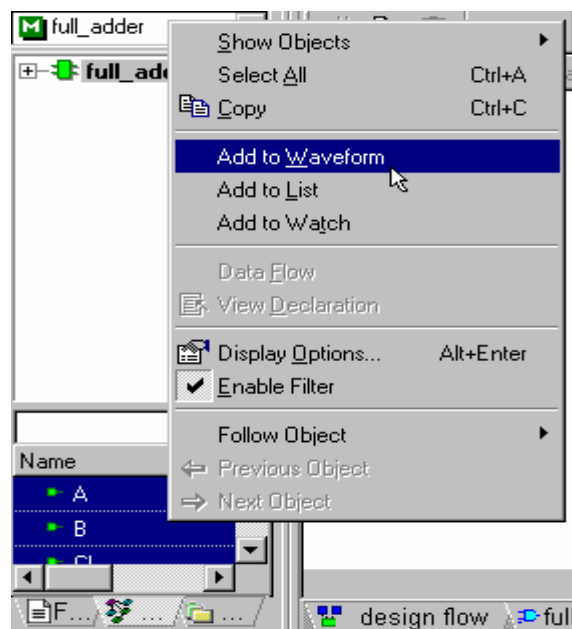

Figure 33
8. Add the signals to the waveform by dragging the signals one by one into the left side of the waveform. A faster method of adding signals to the waveform is to select the signals using the Shift or Ctrl keys. Now you may drag them as described above into the waveform. You can also right-click on a selected signal, and click the Add to waveform option in the pop-up menu as shown in Figure 33.